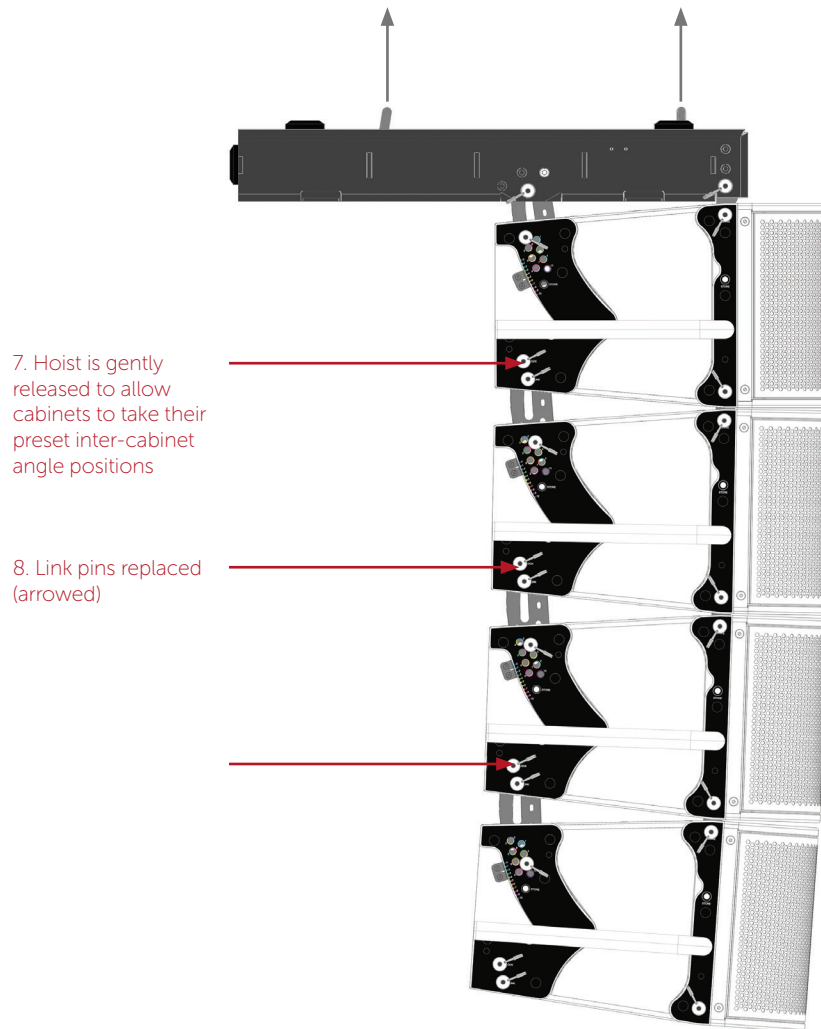

Figure 8.10 : Steps 7 – 10 have been completed and the chain hoist and rear bridle have been removed
8. Replace the rear Lock position pins (arrowed in figure 8.10)